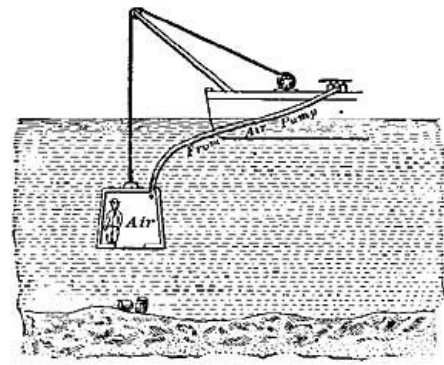

FIG. 146—The principle of work under water.
**191. How a Man works under Water.** Place one end of a piece of glass tube in a vessel of water and notice that the water rises in the tube (Fig. 145). Blow into the tube and see whether you can force the water wholly or partially down the tube. If the tube is connected to a small compression pump, sufficient air can be sent into the tube to cause the water to sink and to keep the tube permanently clear of water. This is, in brief, the principle employed for work under water. A compression pump forces air through a tube into the chamber in which men are to work (Fig. 146). The air thus furnished from above supplies the workmen with oxygen, and by its pressure prevents water from entering the chamber. When the task has been completed, the chamber is raised and later lowered to a new position.